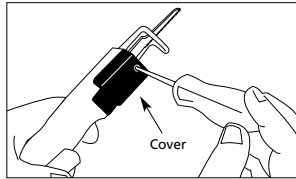

Figure 2
2. Use a Phillips head screwdriver to loosen cover screw (Figure 2).